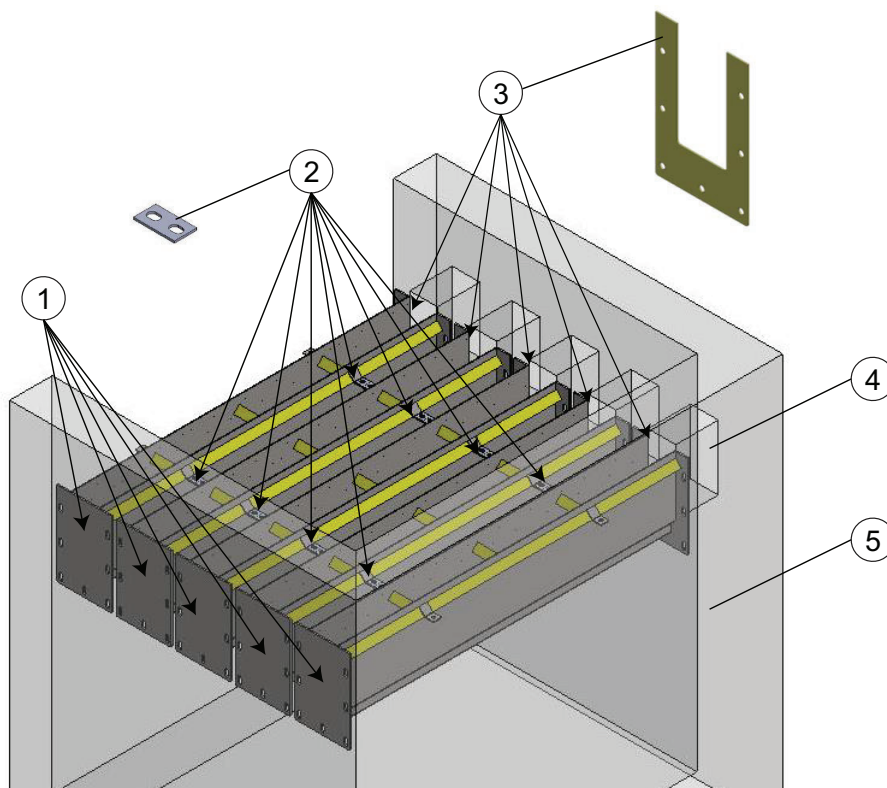

Figure 1 Transverse Weir Trough Installation
7. Install tie bars using provided bolts, washers and lock nuts. Ensure lock nuts are wrench tight. Refer to Figure 1.